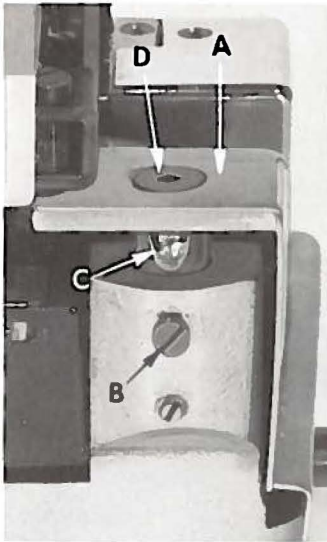

Fig. 3
CAUTION: When removing the cloth plate (A, Fig. 3) loosen the cloth plate stud locking screw (B) and lift up cloth plate with the cloth plate stud (C) and clothplate screw (D), assembled.